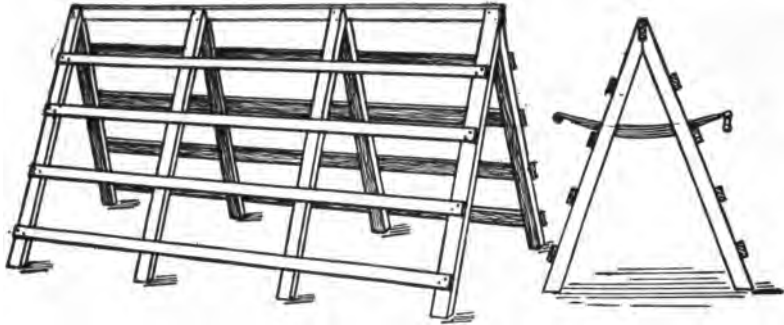

Fig. 61. Simple and Well-Designed Spring Rack
**Tempering or Resetting Springs.** When springs lose their temper or require resetting, it is better for the average repair man to take them to a spring maker; this is a difficult job, requiring more than ordinary knowledge of springs, their manufacture, hardening, annealing, etc. When springs are in this condition, they sag down under load and have no resiliency. If a great many springs are handled, a rack like that shown in Fig. 61 is well worth making.